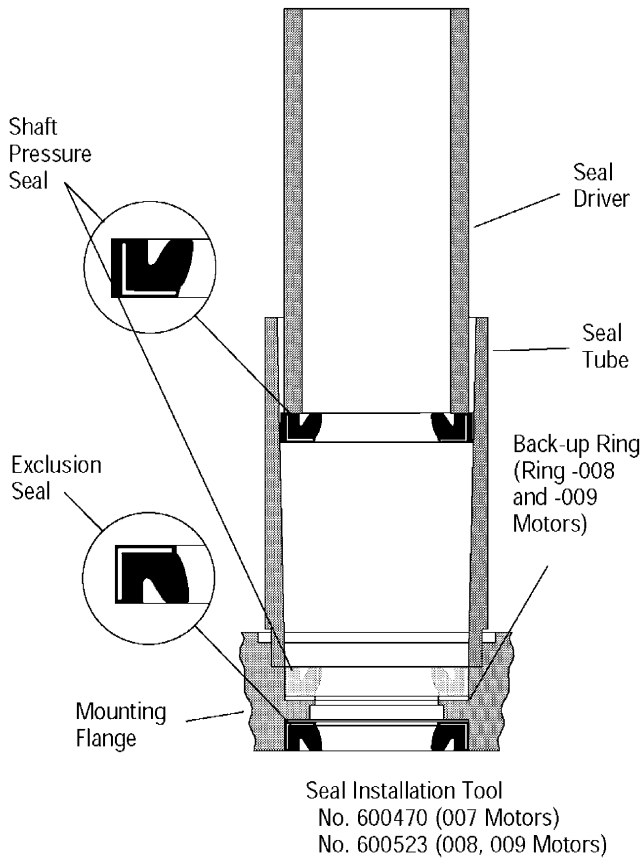

Figure 12
- 21** Install exclusion seal in flange (see Figure 12). Carefully press exclusion seal into place.
- 23** Lubricate I.D. of seal tube and O.D. of shaft pressure seal with light film of clean petroleum jelly. Align small I.D. end of seal tube with seal seat in mounting flange. Install back-up ring and pressure seal in tube with lips of seal face up (see Figure 12). Insert seal driver in tube and firmly push seal seat with a rotating action.